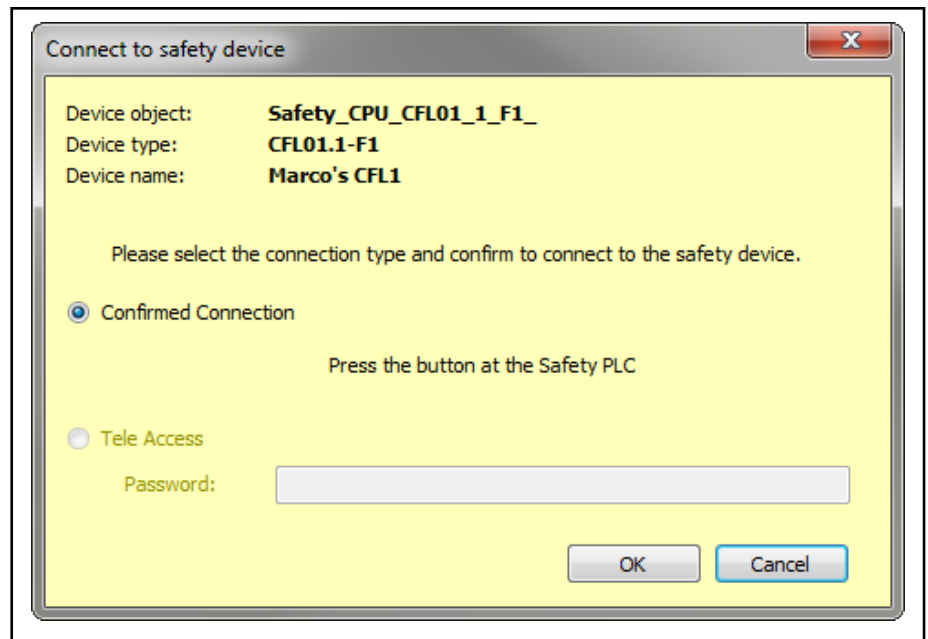

Fig. 8-1: "Connect to safety device" dialog
If required, change the device name in the "Connection to safety control" dialog (fig. 8-1 "Connect to safety device dialog" on page 117).
If the connection to the control is established, the confirmation button has to be pressed directly on the safety control. A prompt to press the confirmation button on the safety control to confirm the connection appears in the **Connect to safety device** dialog (fig. 8-1 "Connect to safety device dialog" on page 117).
2. Enter a new, unique name in the **Connect to safety device** dialog (see fig. 8-1 "Connect to safety device dialog" on page 117)